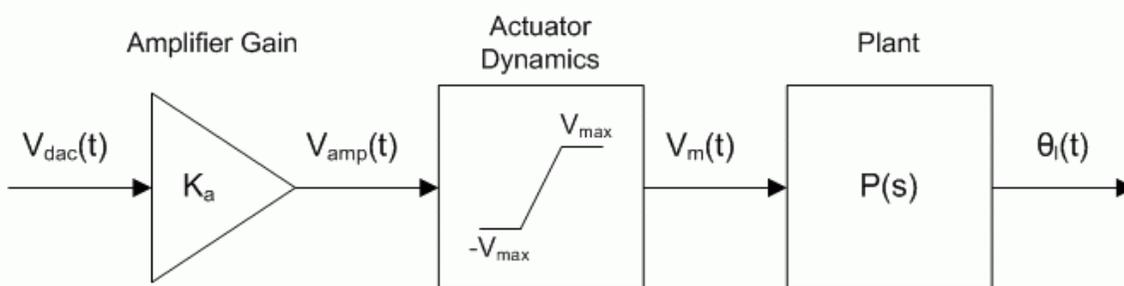

Figure 5: Actuator saturation.
In control design, another factor to be considered is actuator saturation. This is a nonlinear element and is represented by a saturation block, as shown in Figure 5. Consider an SRV02 type setup where the PC computes a control voltage. The control voltage is outputted by a digital-to-analog channel of the data-acquisition device,  $V_{dac}(t)$ , and then amplified by a power amplifier by a factor of  $K_a$ . The amplified voltage,  $V_{amp}(t)$ , is saturated by either the maximum output voltage of the amplifier or the limits of the motor (whichever is smaller). The input SRV02 voltage,  $V_m(t)$ , is the effective voltage being applied to the motor.
- Find the closed-loop SRV02 position control transfer function,  $\Theta(s)/\Theta_d(s)$ , using the time-domain PIV control in Equation [21], the block diagram in Figure 5, and the process model in [3]. Assume the zero initial conditions, thus  $\theta_i(0^-) = 0$ .